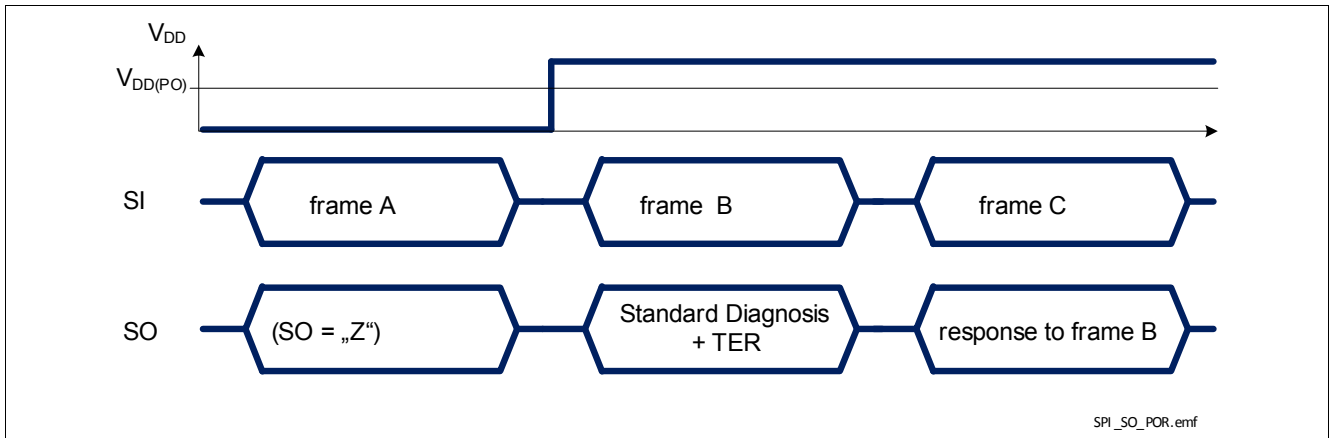

Figure 33 BTS54220-LBA response after coming out of Power-On reset at  $V_{DD}$
- when BTS54220-LBA logic supply comes out of Power-On reset condition, as shown in Figure 33